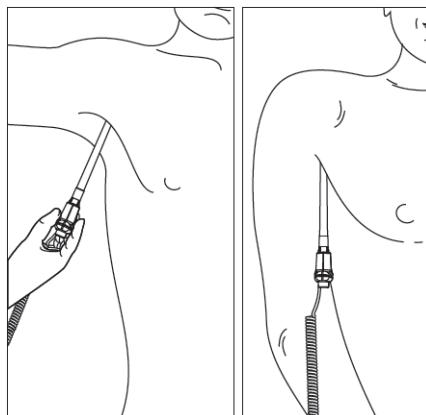

Figure 70: Axillary Temp Probe Position
- 8) Lower the patients arm and remain as still as possible. Hold the Temp Probe parallel to the arm as shown (refer to Figure 70). Hold the arm in this position without movement of the arm or Temp Probe during the measurement cycle.